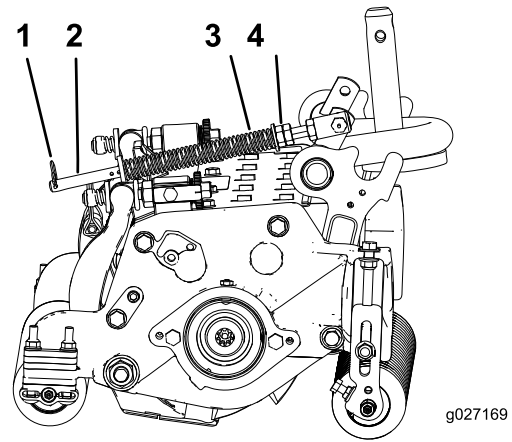

Figure 19
1. Make sure that the hairpin cotter is installed in the rear hole in the spring rod (Figure 19).
2. Tighten the hex nuts on the front end of the spring rod until the compressed length of the spring is 15.9 cm (6.25 inches) (Figure 19).